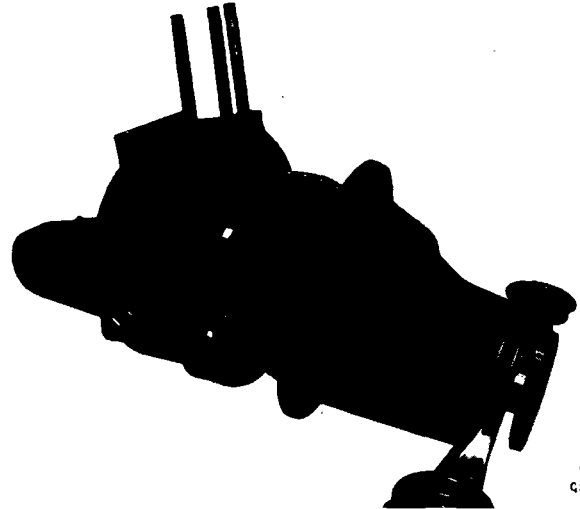

Fig. 31. Using spreading tool to release differential carrier
Remove the bearing cap bolts (49) and detach the bearing caps (47). Assemble the Churchill spreading tool on the housing face as shown on Fig. 31. Spread the fixture by turning the double-ended tensioner screw until it is hand tight, then complete the spread by moving it a further half-turn with a spanner.